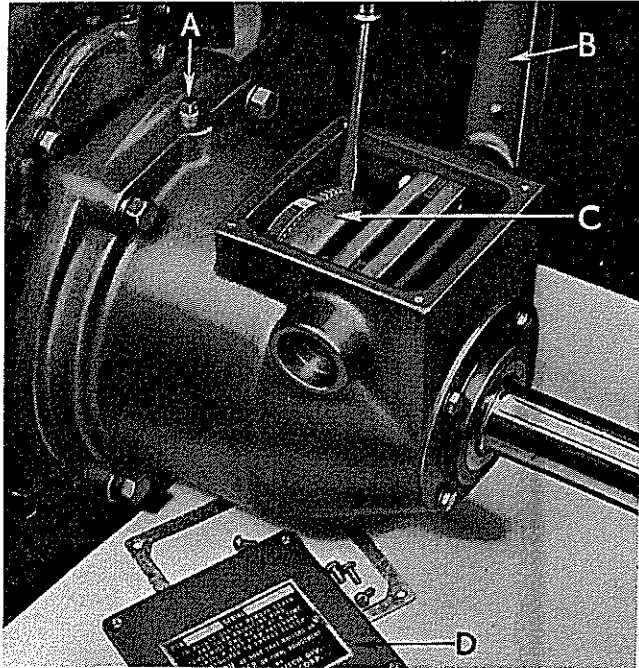

Figure 24
- a. The clutch on this engine is a *wet disc* type running in oil. Before operating the unit, remove inspection plate (Figure 24) and fill the clutch to the level hole on the housing with one pint S.A.E. No. 10 oil.
- b. Release clutch and with a large screw driver (Fig. 24) turn the collar clockwise one notch at a time until a firm pressure is required on the engaging handle.